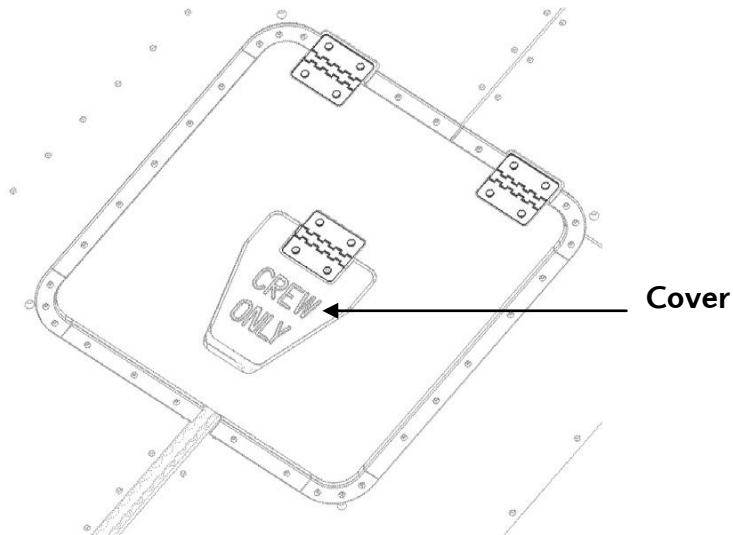

Figure 4. Upper view of the Hatch (from cabin side)
6. Close the cover (Figure 4), pressing it to achieve a good contact between the two faces of the Velcro.